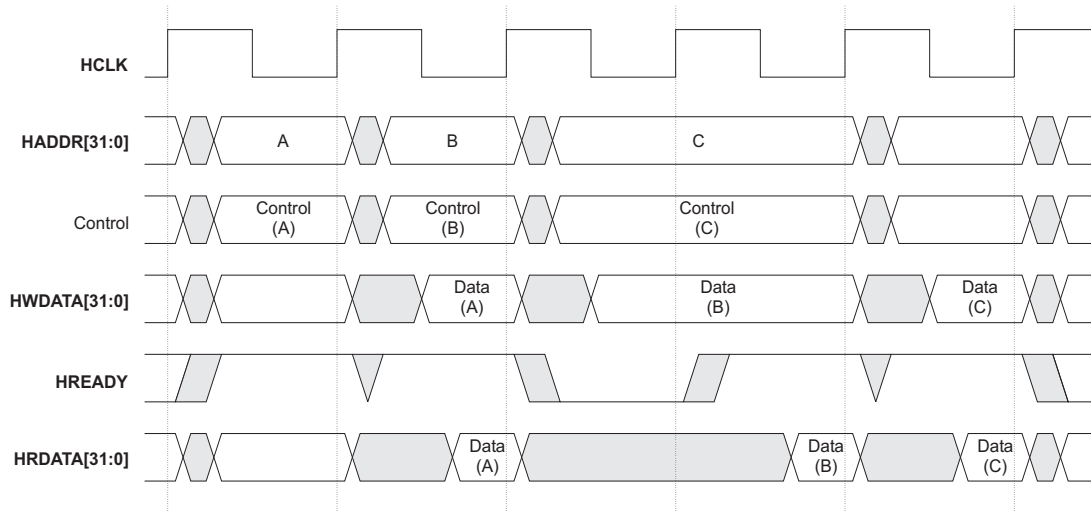

Figure 12: Multiple Transfers
- Multiple transfers (Figure 12 on page 40)